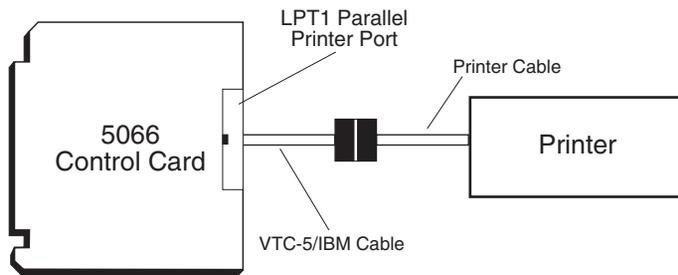

Figure 8-1 – LPT1 as a Printer Port
2. Connect an Octagon VTC-5/IBM cable from the LPT1 port (J4) to the 25-pin connector on your printer cable. See Figure 8-1.